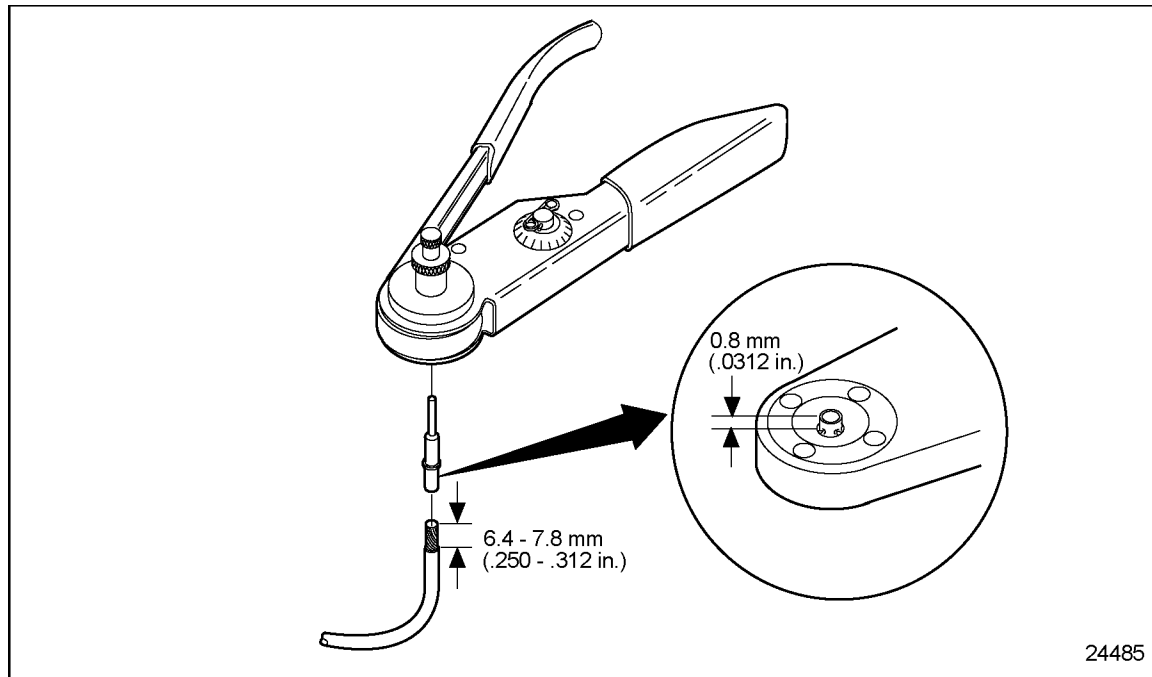

Figure 2-17 **Setting Wire Gage Selector and Positioning the Contact**
4. Position the contact so that the crimp barrel is 0.8 mm (0.03 in.) above the four indenters. See Figure 2-17. Crimp the cable.